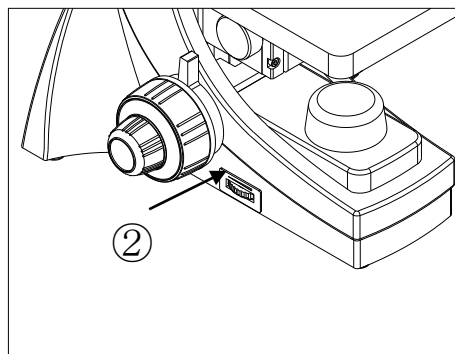

Fig. 14
Move the variable light intensity dial ② (Fig 14) toward the front of the microscope base to increase the brightness; turn it toward the back of the microscope base to decrease the brightness.